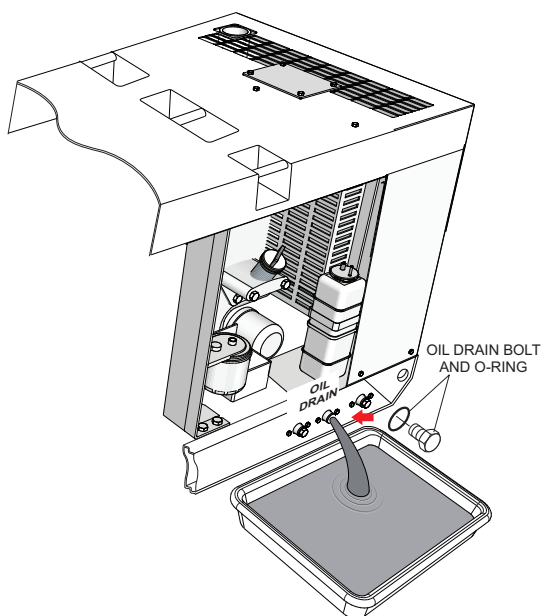

Figure 44. Draining The Engine Oil
3. Remove the **oil drain bolt** and **O-ring** (Figure 44), then allow the oil to drain into a suitable container.